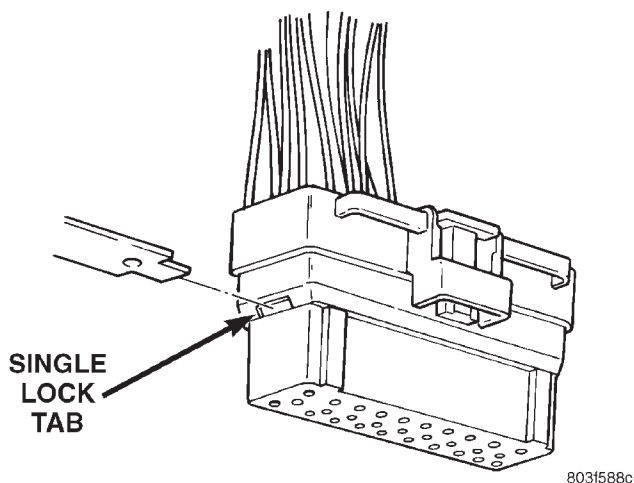

Fig. 16 Single Lock Tab
(8) Push in the single lock tab on the side of the connector (Fig. 16).